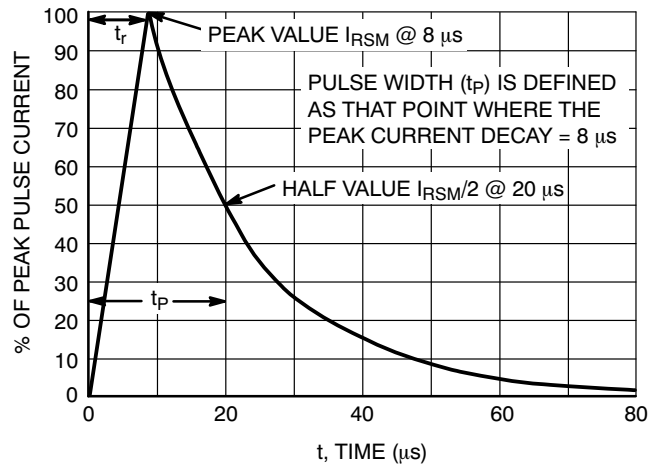

Figure 2. $8 \times 20 \mu s$ Pulse Waveform
1. Non-repetitive current pulse per Figure 2
- Surge current waveform per Figure 2